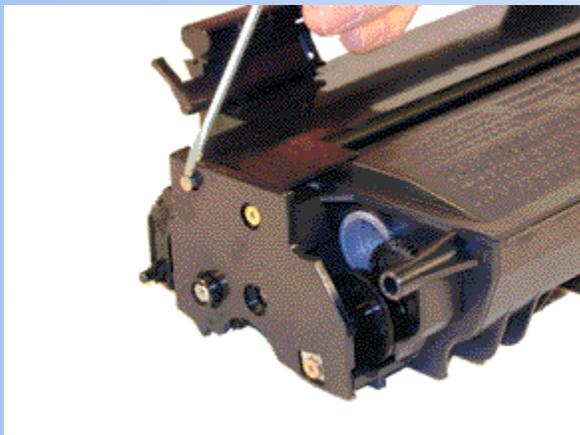

FIGURE 6
1. Place the cartridge with the handle away from you. Remove the 2 silver pins. See Figure 6